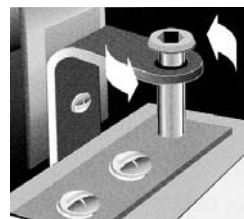

Fig. 6
- c) Remove the M5 hex screw from the top hinge bracket and push down on the spring loaded cartridge top (fig. 6). The door is then free to be pulled clear of the top hinge bracket and then lifted clear of the bottom hinge bracket (fig. 6).